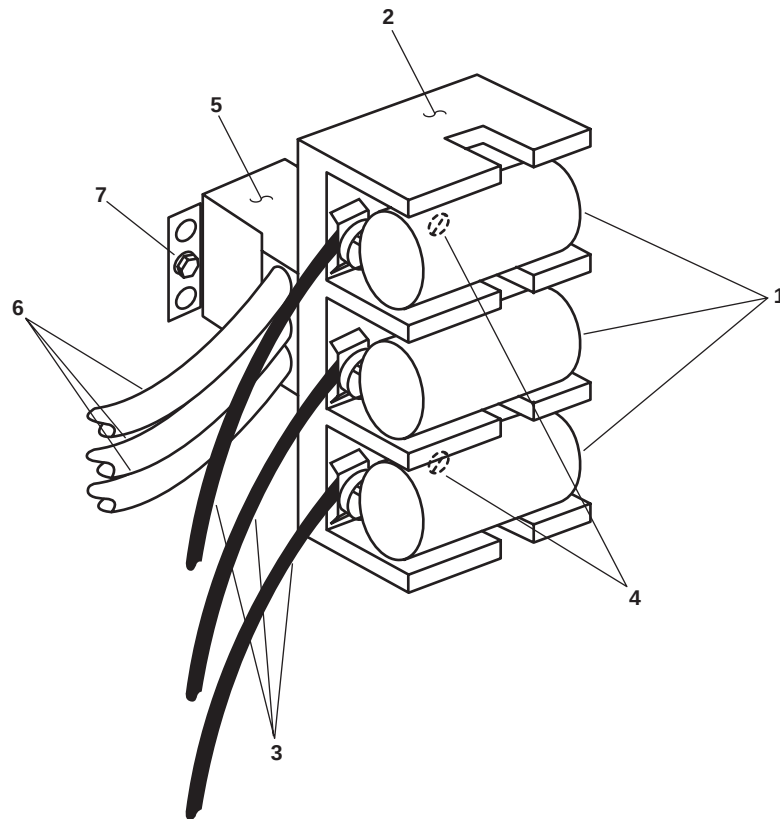

Figure 3. Magnetic Contactor/Fuse Holder
4. Using a multimeter, check for voltage at the fuses (figure 3, item 1). If voltage is present, check that the proper circuit breaker (table 1) is locked out and tagged out (FM 55-502). If no voltage is present, continue with the procedure.
5. Remove the fuses (figure 3, item 1) from the fuse holder (figure 3, item 2).
6. Label and disconnect the wiring (figure 3, item 3) from the fuse holder (figure 3, item 2).
7. Remove the two screws (figure 3, item 4) that secure the fuse holder (figure 3, item 2) to the magnetic contactor (figure 3, item 5) and remove the fuse holder.
8. Label and disconnect the control wiring (figure 3, item 6) from the magnetic contactor (figure 3, item 5).
9. Remove the two mounting screws (figure 3, item 7) and remove the magnetic contactor (figure 3, item 5).
1. Install the new magnetic contractor (figure 3, item 5) and secure it with the two mounting screws (figure 3, item 7).
2. Connect the control wiring (figure 3, item 6) to the magnetic contactor (figure 3, item 5) using the labels from step 8 of Removal as a guide. Remove the labels.
3. Install the fuse holder (figure 3, item 2) and secure it to the magnetic contactor (figure 3, item 5) with the two screws (figure 3, item 4).
4. Connect the wiring (figure 3, item 3) to the fuse holder (figure 3, item 2) using the labels from step 6 of Removal as a guide. Remove the labels.